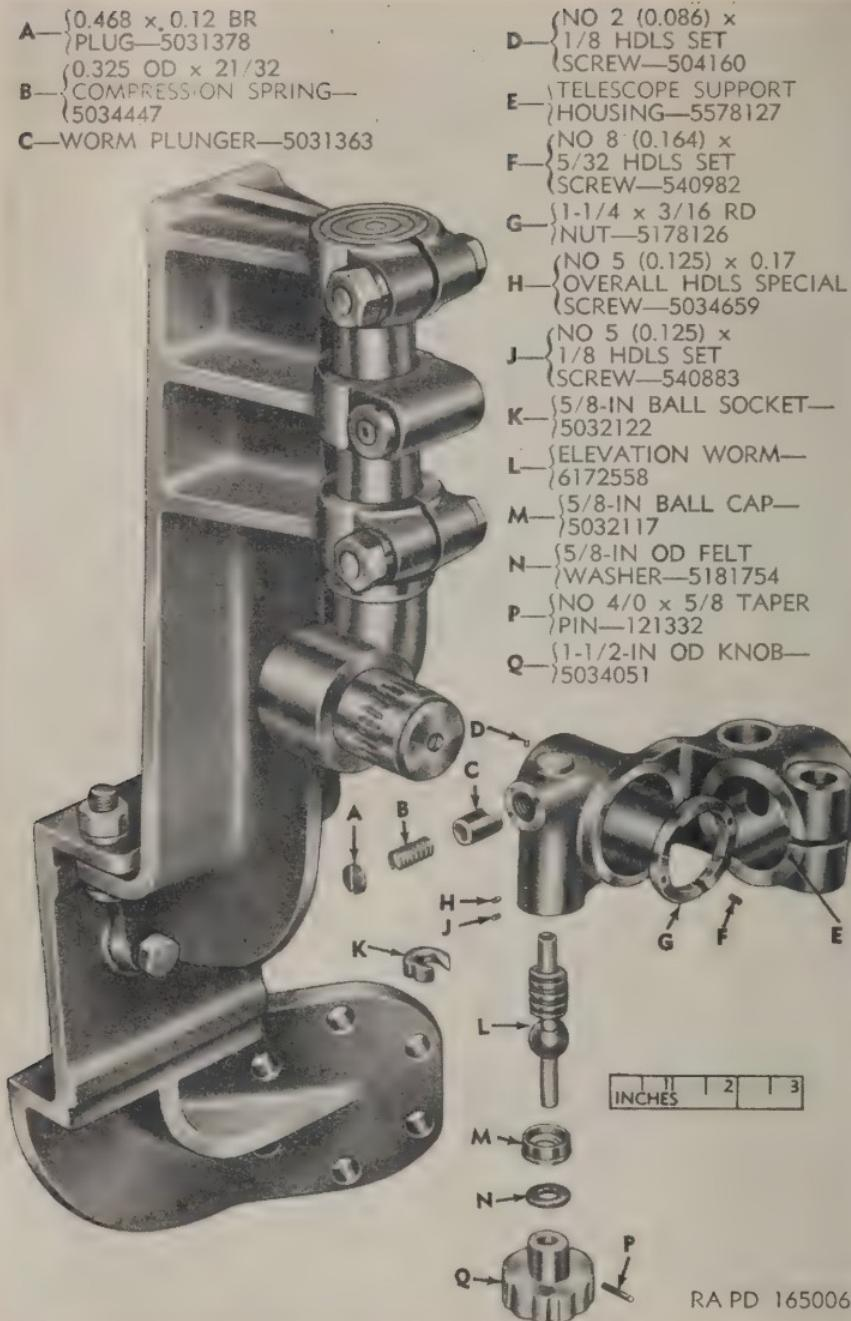

Figure 32. Telescope mount M28—removal of the telescope support housing—exploded view.
68. Removal of the Telescope Support Housing (fig. 32)
a. Extract the headless setscrew (D) that locks the plug into position. Remove the plug (A) that retains the compression spring in the housing. Extract the compression spring and worm plunger (B and C) from the telescope support housing.
b. Properly support the knob (Q) and press or drive out the taper pin that secures the knob to the worm shaft. See paragraph 30 for proper method of removal of taper pins. Pull the knob and felt washer (N) from the worm shaft.
c. Remove the headless set screw (J) that locks the ball cap in the housing. With a spanner wrench, unscrew the ball cap (M) from the housing and slide the ball cap from the worm.
d. Remove the headless special screw (H) that locates the ball socket in the housing. Extract the elevation worm and ball socket (L and K) from the housing by rotating the housing until the worm clears the teeth of the spindle assembly. Slide the ball socket from the elevation worm.
e. Remove the headless set screw (F) that locks the round nut to the worm gear of the spindle assembly. With a spanner wrench, unscrew the round nut (G) from the worm gear. Slide the telescope
(fig. 32)